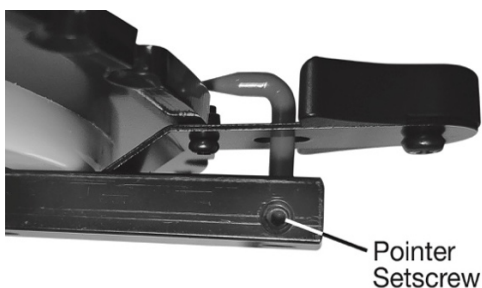

Figure 9-8
Squaring Miter Gauge (see Figure 9-8)
4. After squaring, if the red pointer (T) is not pointing at 0°, loosen the pointer setscrew (see Figure 9-8), rotate the pointer to 0°, and retighten the pointer setscrew.